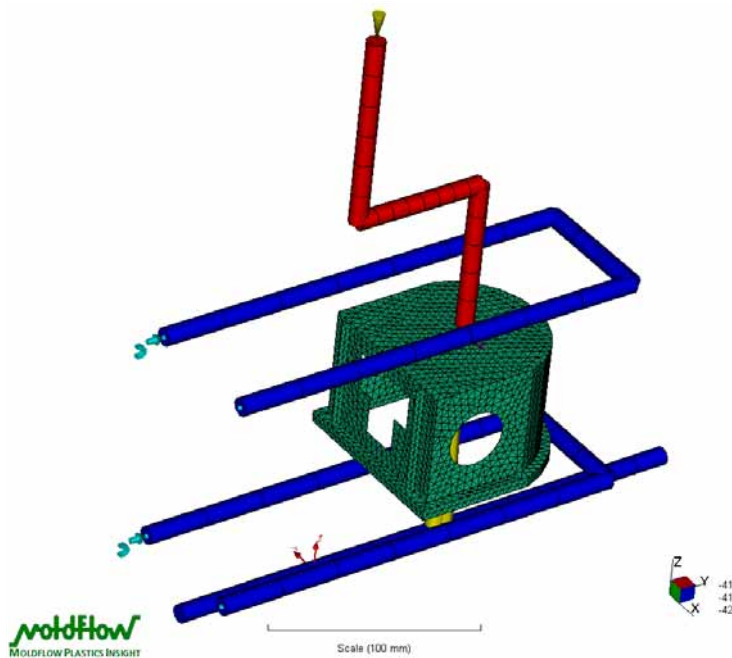

Figure 66: Completed Speedo model
- The final mesh model should look like Figure 66.